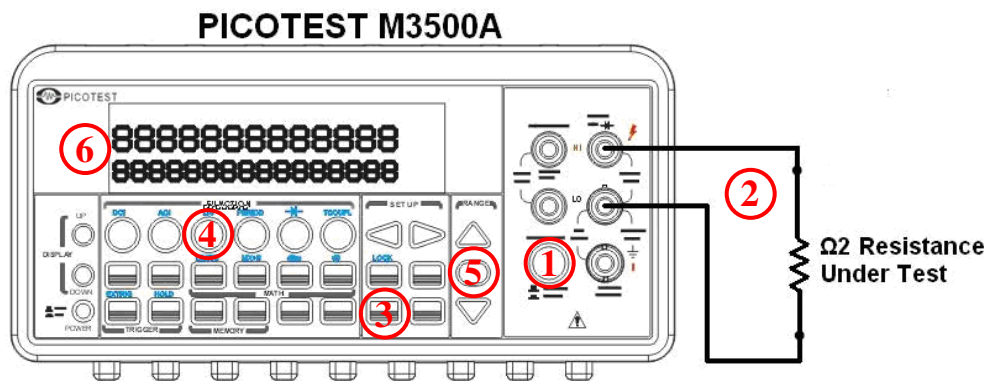
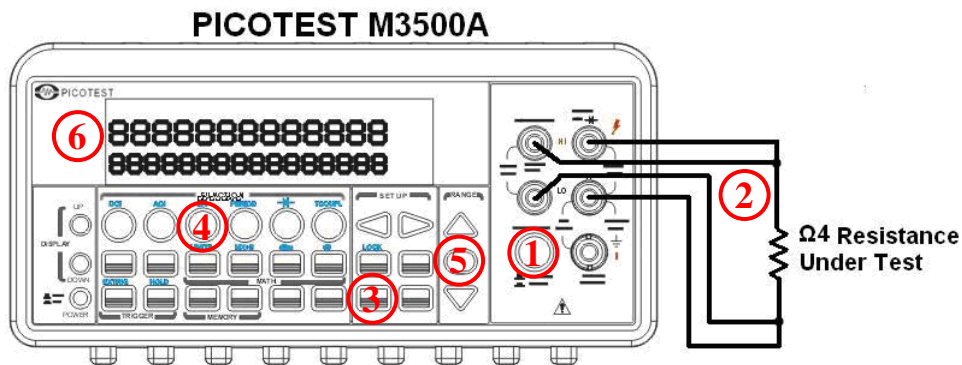
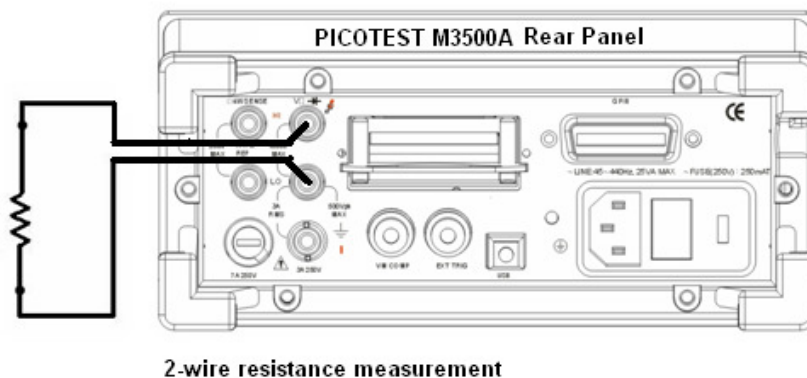

Figure 3-6
Figure 3-7
Figure 3-8
The ranges for resistance measurement are 100 Ω , 1K Ω , 10k Ω , 100k Ω , 1M Ω , 10M Ω , and 100M Ω , with a sensitivity of 100 $\mu\Omega$ (on 100 Ω range.) There are two modes for measuring the resistance: 2-wire mode as shown in **Figure 3-6** and 4-wire mode as shown in **Figure 3-7**. With 4-wire mode, the test current is measured from the test resistance through one pair of the test leads, and the test voltage across the resistance under test is measured from another set of the test leads. As a result, the 4-wire mode is more accurate for low resistance measurements. The trade off is the longer settling time for 4-wire mode. **Figure 3-8** and **3-9** show the input terminal connections on the rear panel for 2-wire mode and 4-wire mode respectively.
- ① Selects input signal connections on front or rear panel.
- ② Connect the test leads to the terminals as shown in **Figure 3-6** (2-wire) or **Figure 3-7** (4-wire).
- ③ Set RESOLUTION (Refer to 4.1.3) or skip this step if default is to be used.
- ④ Press $\Omega 2$ button for 2-wire measurement or SHIFT + $\Omega 2$ buttons for 4-wire measurement.
- ⑤ Select the auto-range function by pressing AUTO button on the front panel or use $\triangle$ and ∇ buttons to select the desired range.
- ⑥ Connect test leads to your source signal and observe the reading shown on the display. If the input signal is greater than the allowed range, an overflow message "OVLD" will be displayed.
※ Note: The rear terminal panel also can be used via the same procedures like the front panel as shown in **Figures 3-8** and **3-9**.